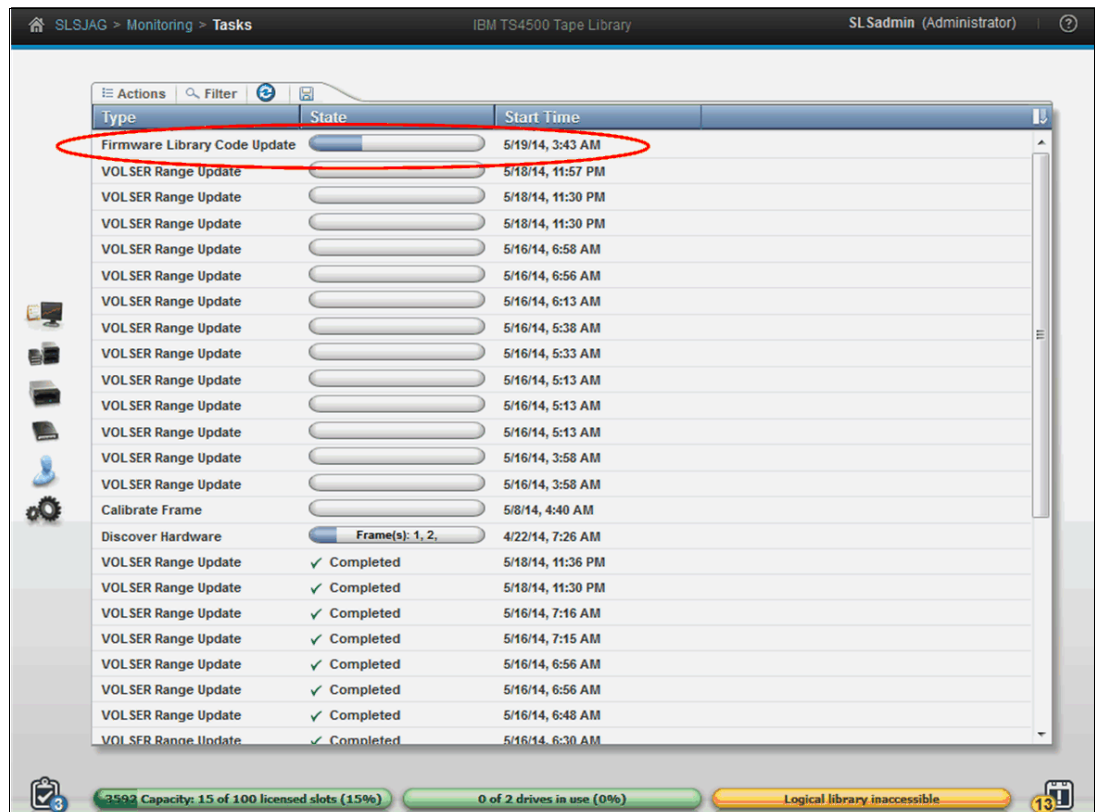

Figure 4-152 Firmware update status
- The firmware is downloaded to the TS4500 tape library first, and this download can take a few minutes. Then, the update starts and the Tasks pod, which is at the lower-left corner of the System page, indicates that the firmware update task is in progress. Monitor the status of the update from the Tasks page by selecting **Monitoring** → **Tasks**, as shown in Figure 4-152.